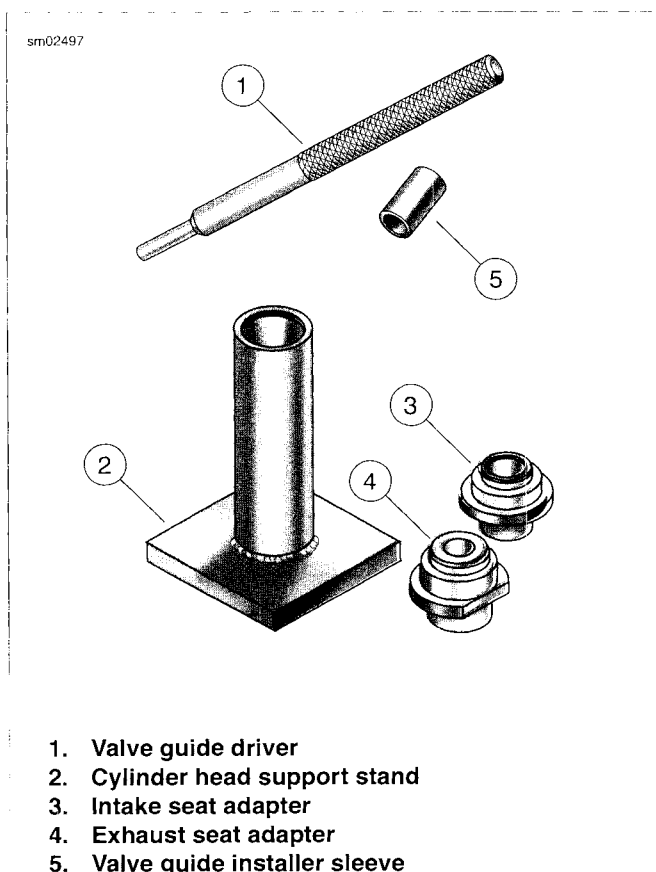

Figure 3-100. Valve Guide Replacement Tools
1. See Figure 3-100. Prepare cylinder head for valve guide replacement.
- b. Insert sleeve of INTAKE SEAT ADAPTER (Part No. HD-39782-3) (3) or EXHAUST SEAT ADAPTER (Part No. HD-39782-4) (4) seat adapter into tube at top CYLINDER HEAD SUPPORT STAND (Part No. HD-39782-1) (2).
- a. See Figure 3-100. Insert sleeve of INTAKE SEAT ADAPTER (Part No. HD-39782-3) (3) or EXHAUST SEAT ADAPTER (Part No. HD-39782-4) (4) into tube at top of support stand (2). Position cylinder head so that valve seat is centered on seat adapter.